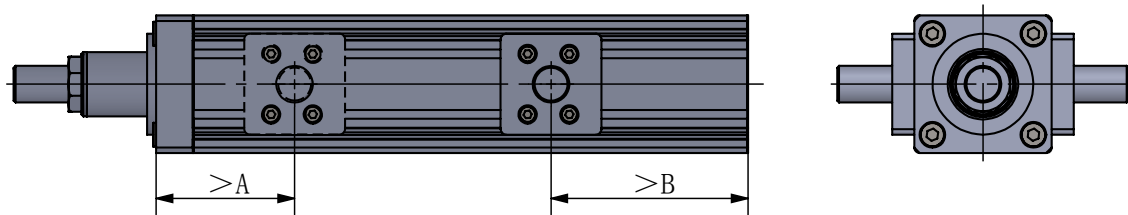

Figure 007
1.2.1. Installation methods of side plate and trunnion for different types of servo linear actuator are shown in the following figure (Figure 007).